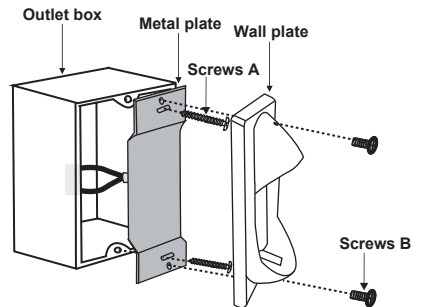

Figure 20
Step 2. Install the metal plate and wall plate to the existing wall outlet box with 4 screws provided. (Fig. 20)